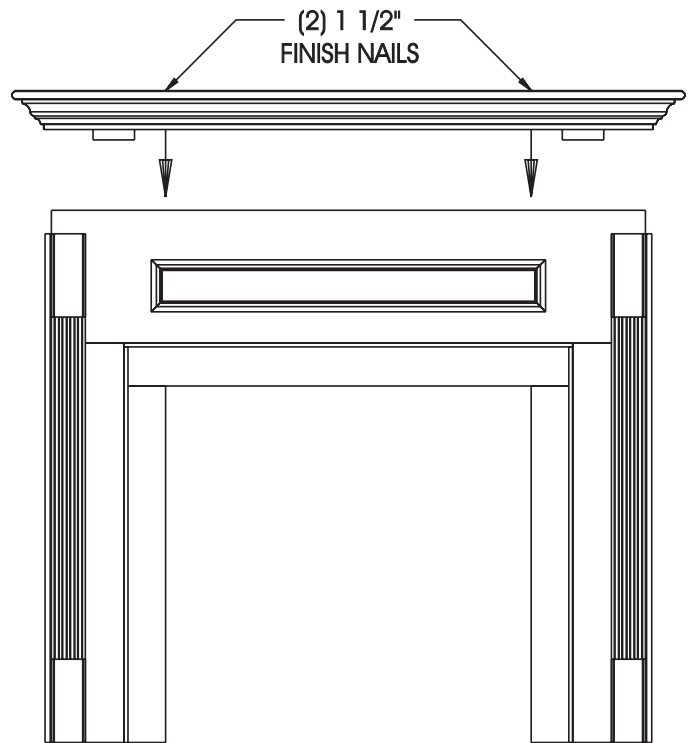

Figure 6
- Place mantel top onto mantel sides and breastboard (See Figure 6).
- Attach mantel top to breastboard with (2) 1-1/2" finish nails (See Figure 6).